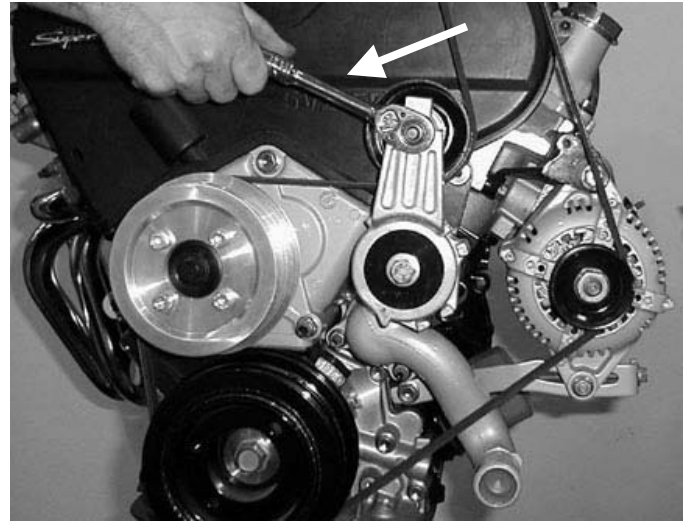

Figure 7
12. Use a 3/8" long-handle ratchet to rotate the dynamic tensioner to remove the supercharger drive belt from the supercharger (Figure 7). It is not necessary to remove the belt from the vehicle completely.